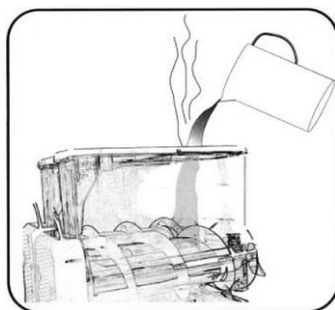

Fig. 17
2. Fill the tank with lukewarm water and empty it through the drain tap (Fig. 17, 18).